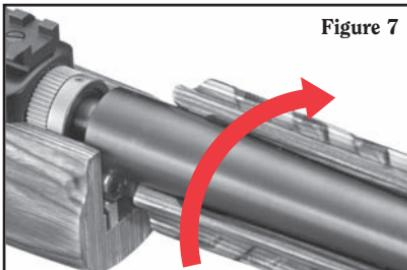

Figure 7
- 2) rotating it ***clockwise*** until it locks into place. (See Figure 7.)